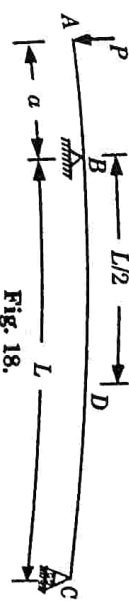

Fig. 18.
- a. For the beam and loading shown in Fig. 18. Determine the slope A, B, C and D and deflection A and D by conjugate beam method.
Given : Fig. 18.